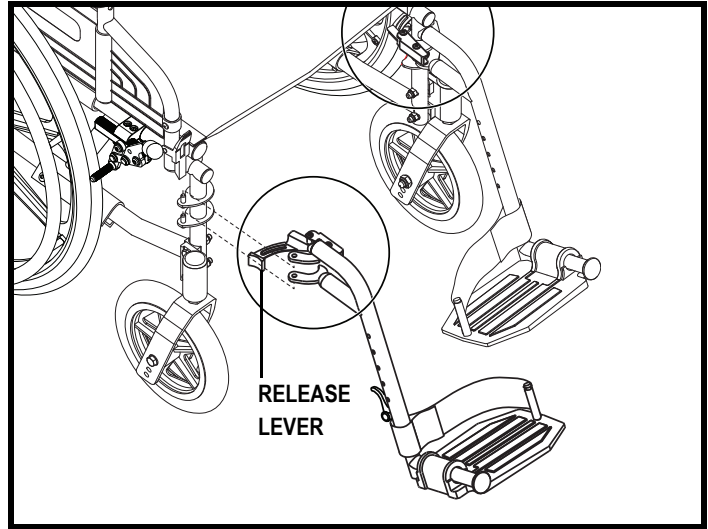

Figure 14. SFR Release
1. Push the release lever back. See figure 14 or 16.